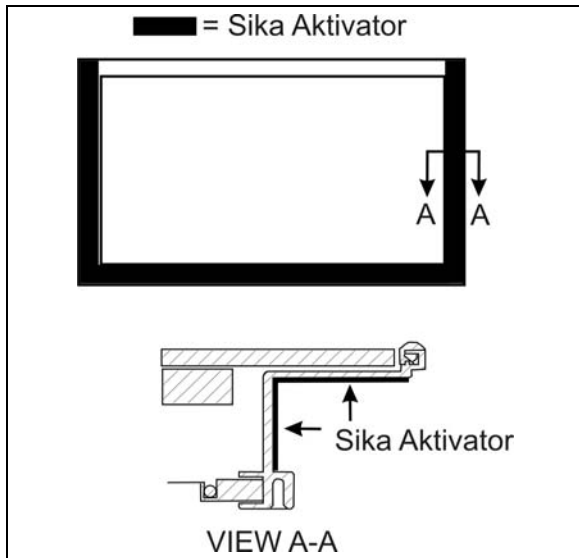

FIGURE 76 : SLIDING WINDOW - SIKa AKTIVATOR
2. Clean sliding window frame with anti-silicone and then apply Sika Aktivator as per FIGURE 76;